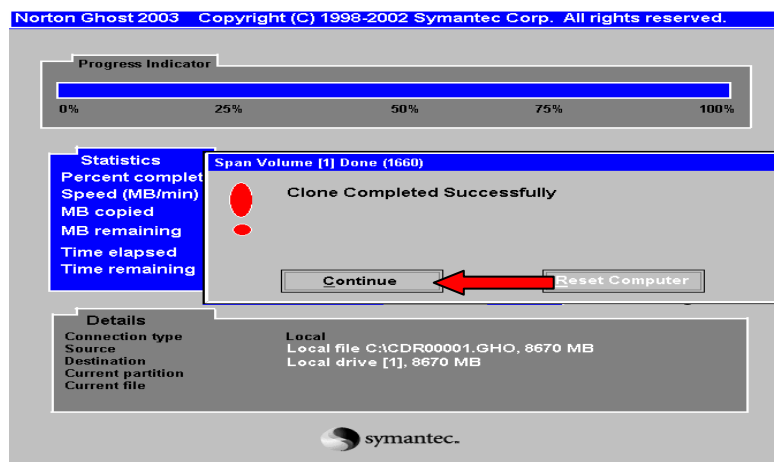

Figure 1-185. Clone Completed
16. When the cloning process is complete, a "Span Volume [1] Done" confirmation window displays the message, "Clone Completed Successfully" (Figure 1-185). Click **Continue** to return to the Ghost Menu.